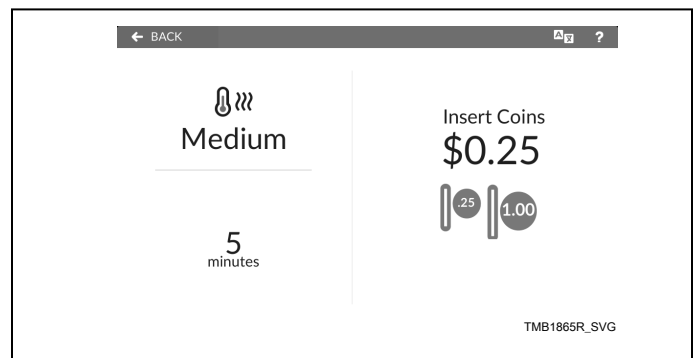

Figure 25
4. The Payment Menu shows the cycle selection summary and vend price total (refer to Figure 25). Once the total vend price is entered, the vend price total changes to show START. Touch START to begin the cycle.